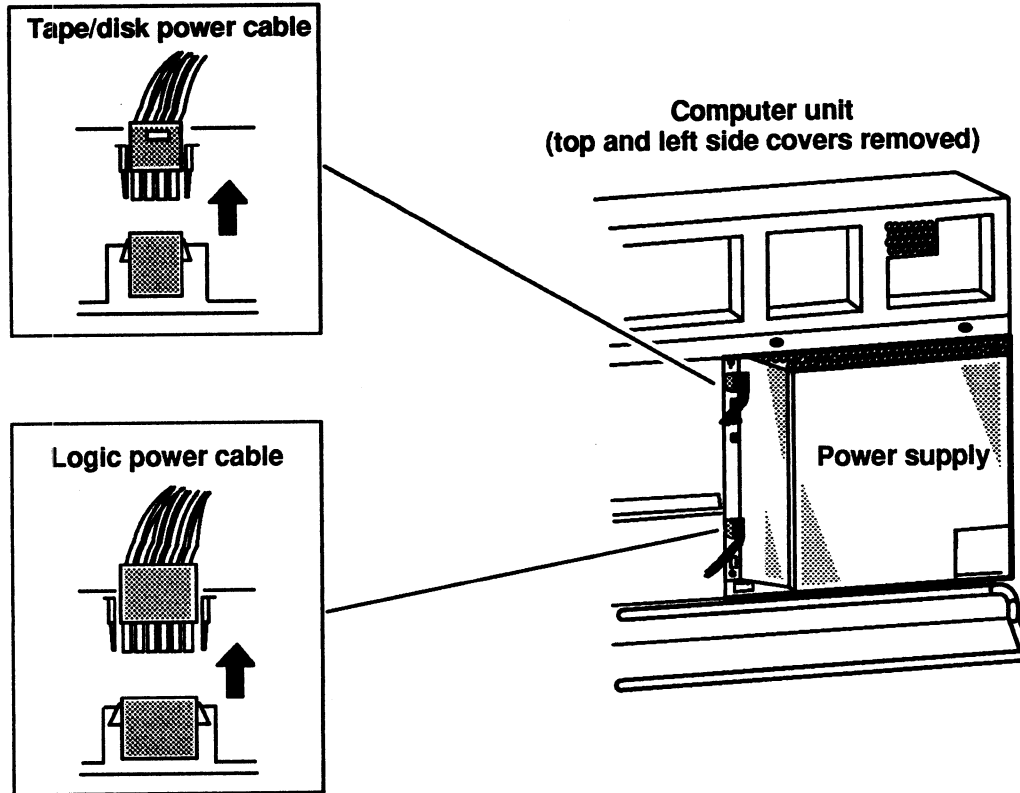

Figure 6-3 Unplugging the Tape/Disk Power and Logic Power Cables from the Power Supply
2. Unplug the tape/disk power and logic power cables from the power supply as shown in Figure 6-3.